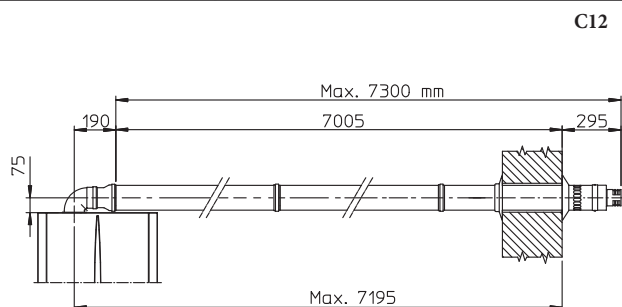

Fig. 1-20 Фиг. 1-20
- Extensions for horizontal kit. The horizontal intake/exhaust kit Ø 80/125 can be extended up to a maximum horizontal length of 7300 mm including the terminal with grille and excluding the concentric bend leaving the boiler and the adapter Ø 60/100 in Ø 80/125 (Fig. 1-20). This configuration corresponds to a resistance factor of 100. In this case the special extensions must be requested.